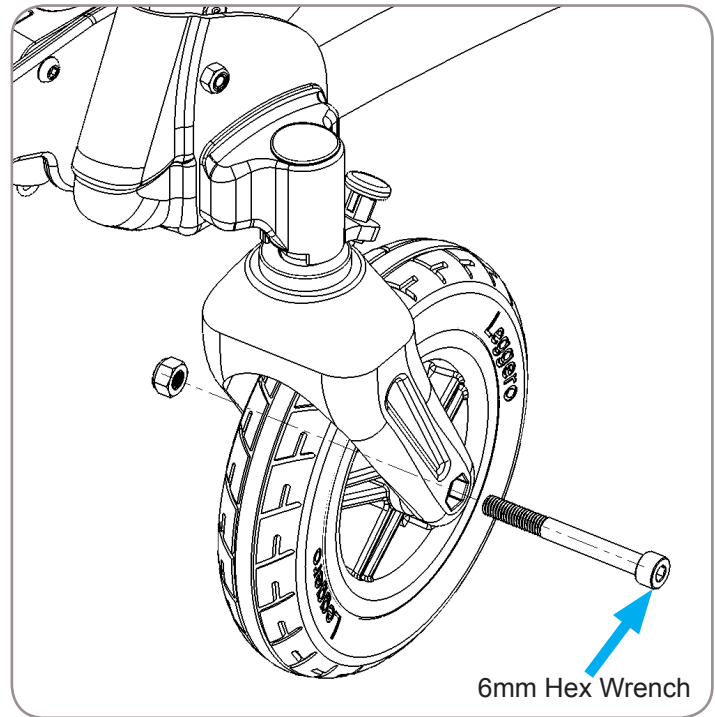

Figure 1
3. Install front casters, reference Figure 1.